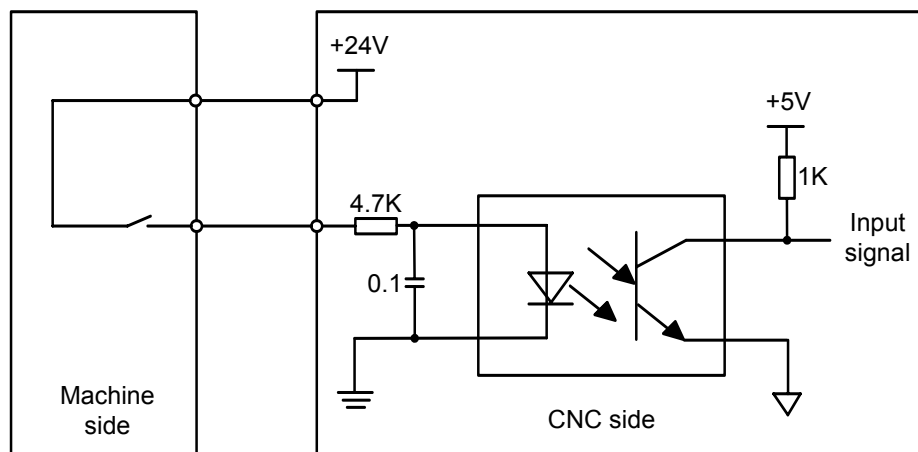

Fig. 3-2-1-1
b) The return circuit of the signals is shown as fig.3-2-1-1: